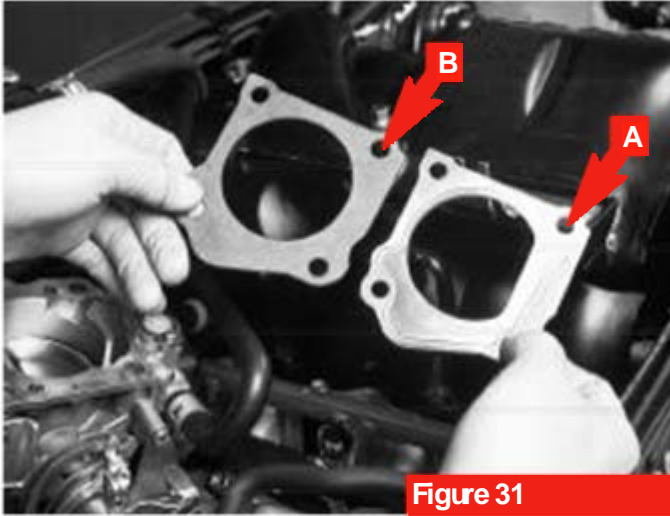

Figure 31
**IMPORTANT:** Do not reuse the OE metal gasket (A, figure 31) on the throttle body. It will reduce boost output by 1 ½ lbs. Use the gasket supplied with the kit (B, figure 31), and make sure that it is positioned properly. Its shape must coincide with that of the throttle body. If not, you will create a vacuum leak.